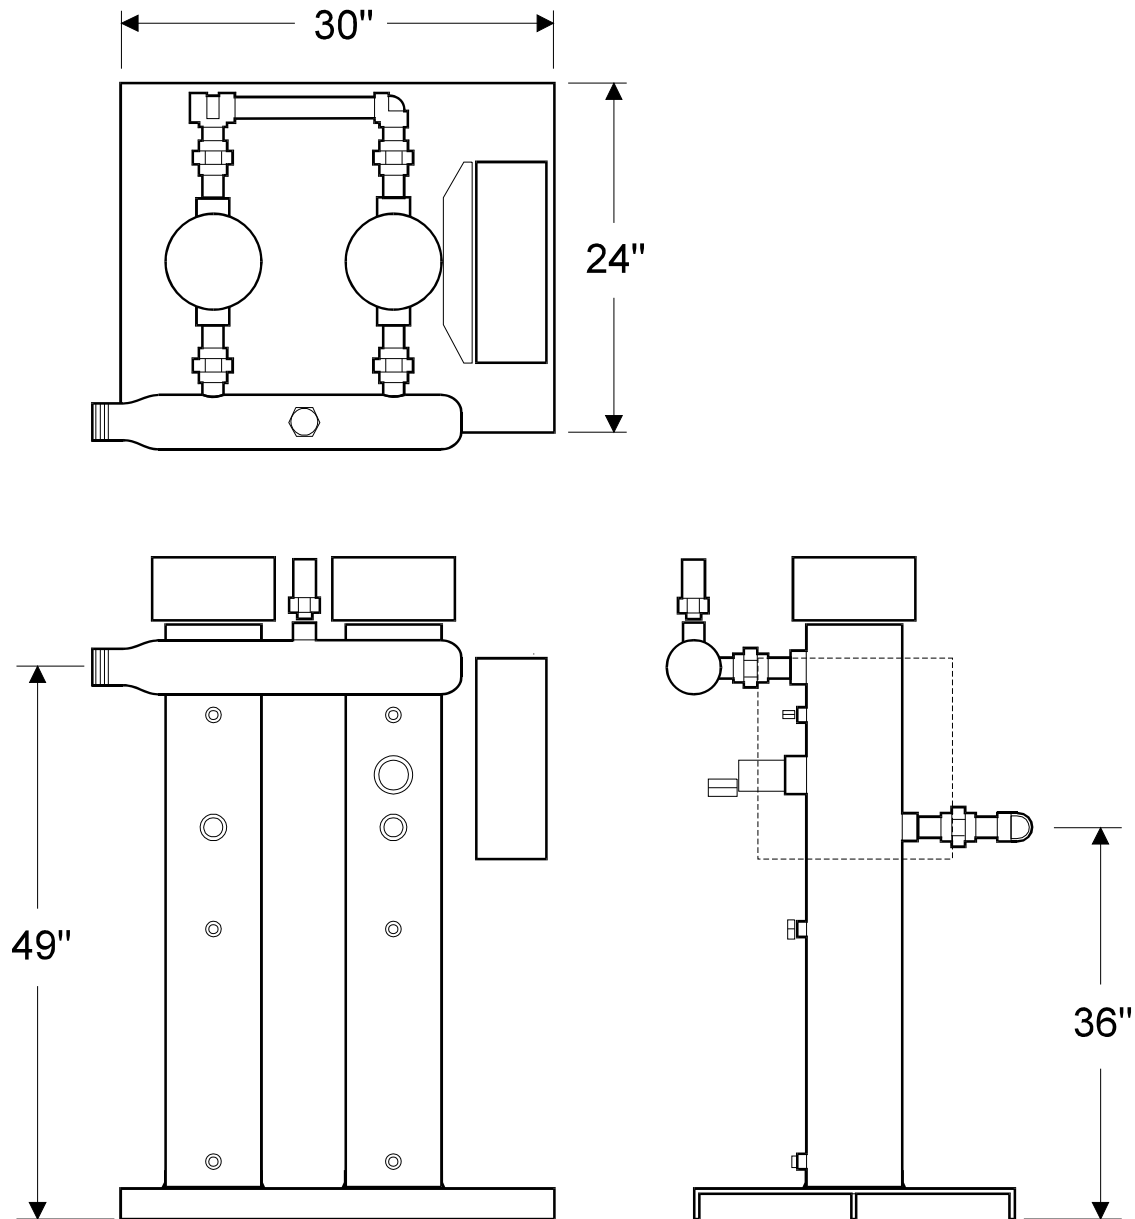

Figure 2-1 - RE160LE Series Physical Specifications
2.03 Figure 2-1 illustrates a typical Vaporizer and is provided with key letter callouts for Physical dimensions.
4.01 Table 4-1 will provide the user with tabulated performance specifications for RE Series Vaporizers. Figure 2-1 illustrates the physical specifications of respective RE Vaporizers. The user will find this useful when planning new installations.